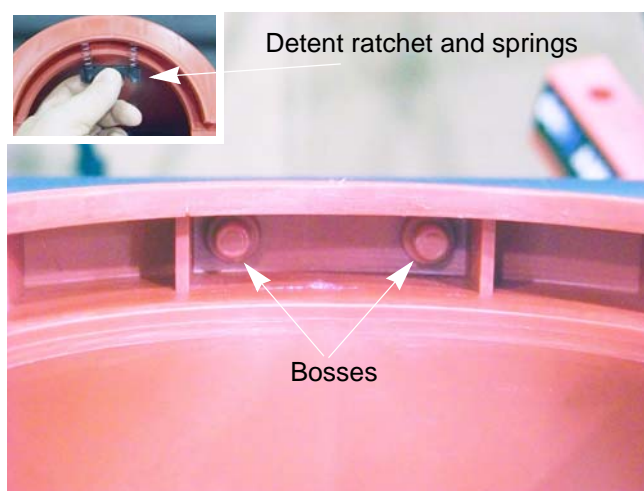

Figure 4.5
7. Install the detent ratchet and spring in the auger housing so that the spring slide over the bosses in the housing. See Figure 4.5.